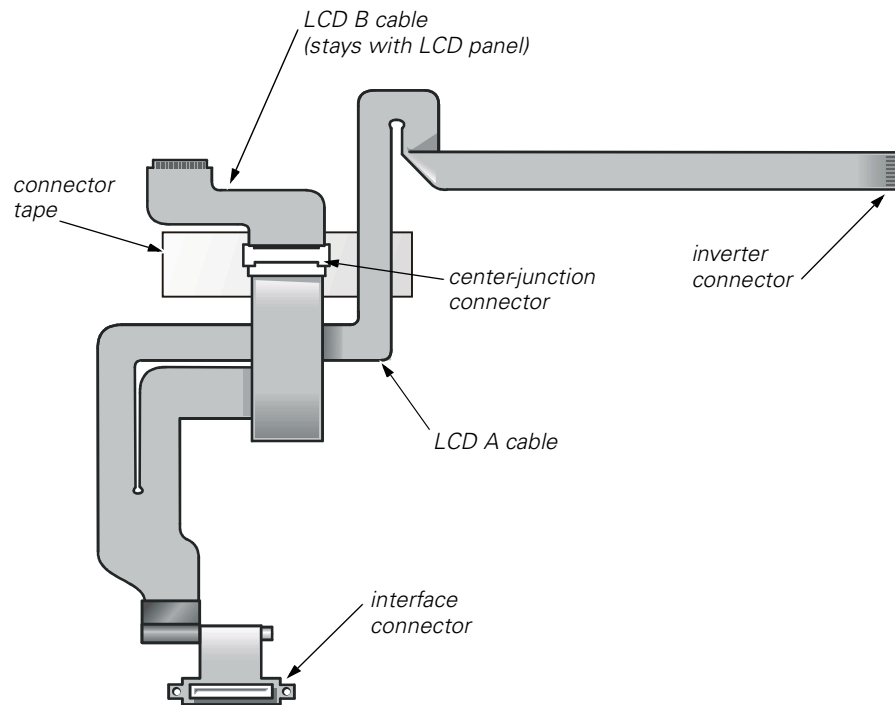

Figure 19. Two-Piece Cable Layout for the 13.3-Inch LCD Panel
4. Remove the connector tape from the interface cable at the center-junction connector on the back of the LCD panel (see Figure 19).
Figure 19 shows the two-piece (A and B) cable layout for a 13.3-inch LCD panel.